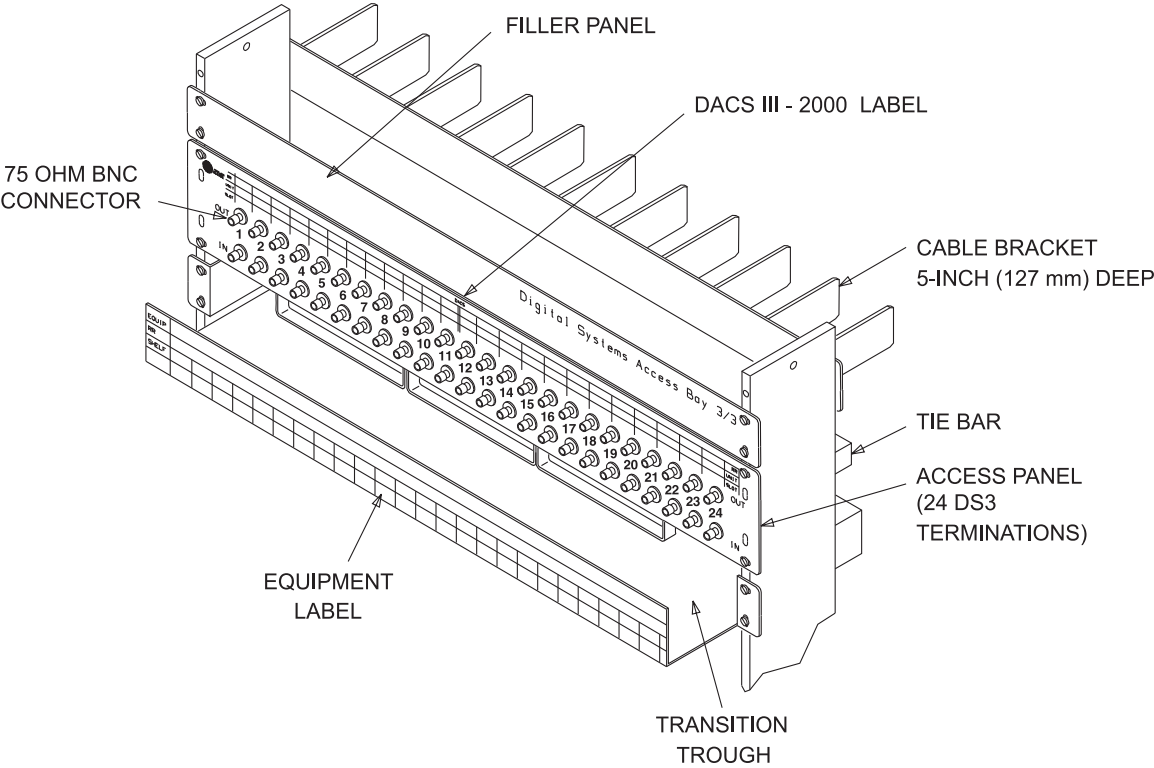
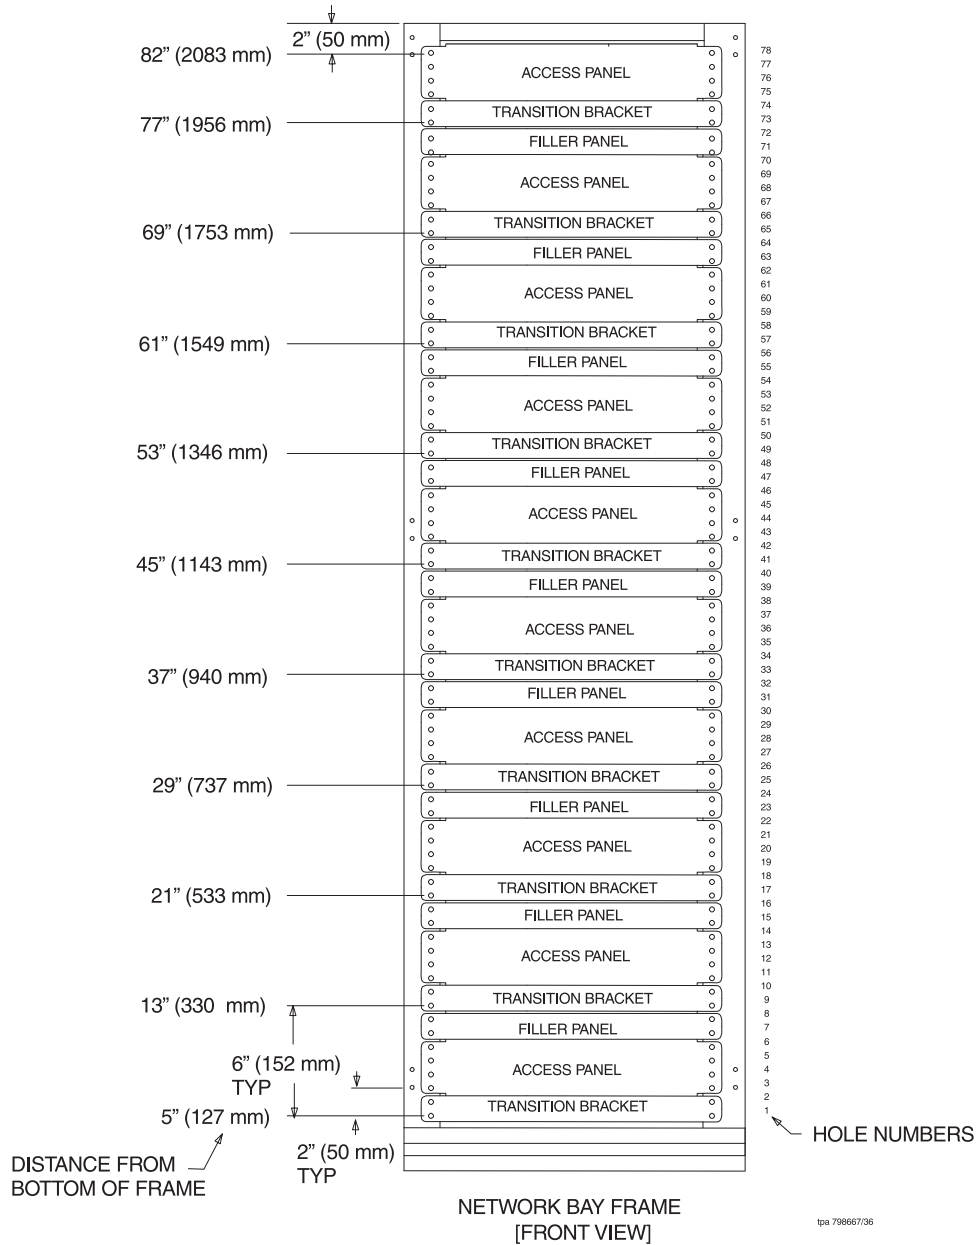

Figure 2. DSAB3/3 Assembly Components (Group 1)
Figure 3. DSAB3/3 Assembly Components (Group 2)
* Not shown in Figure 2 on page 4 or Figure 3 on page 5. Note: Group 3 deleted after first office application.
Refer to Figure 2.
Refer to Figure 3.